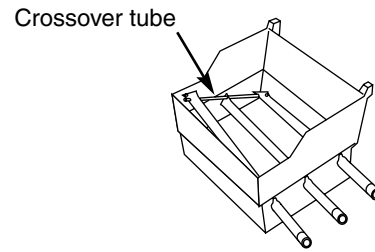

Figure 17
- g) Lift and twist the burner assembly slightly, to separate the crossover tube from the burners. Figure 17. Remove the burners from the cooking box.